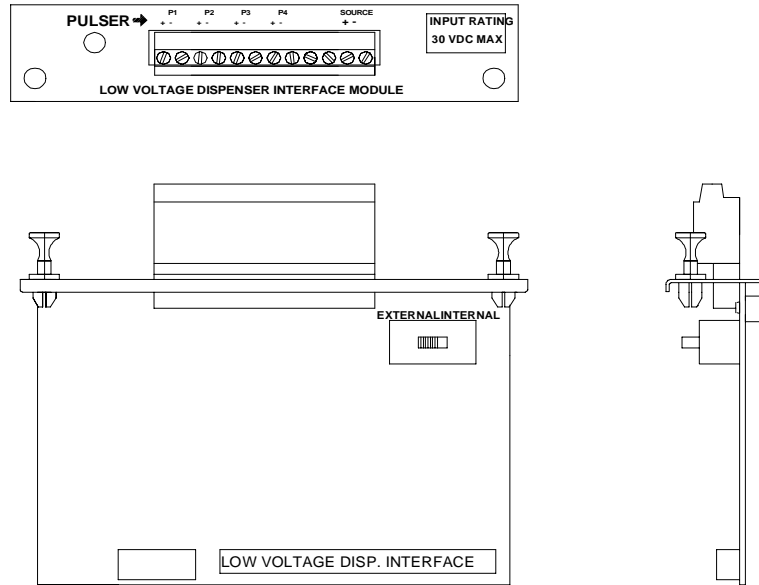

Figure 6. Illustration of LVDIM with SW1 in the EXTERNAL (left) Position
2. Locate Switch 1 (SW1) on LVDIM module. Be sure switch is in the “EXTERNAL” position. See Figure 6 on page 14.
1. Locate Switch 1 (SW1) on the Low Voltage Dispenser Interface Module (LVDIM). Be sure switch is in the “INTERNAL” position (see Figure 6 on page 14).